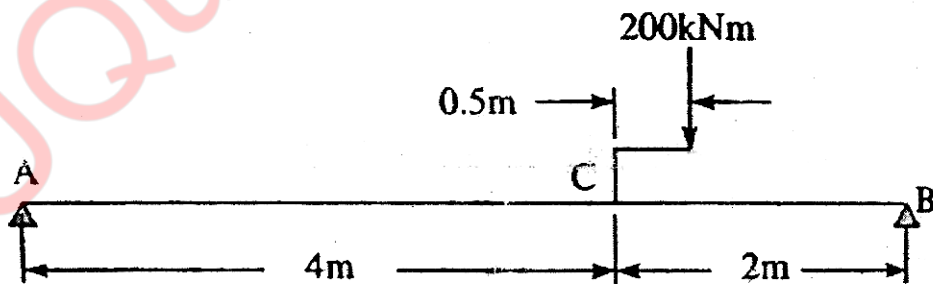

Fig. 4
- (b) Find the deflection at C for the beam loaded as shown in Fig. 4. Take  $EI = 40,000 \text{ kNm}^2$ . [6]